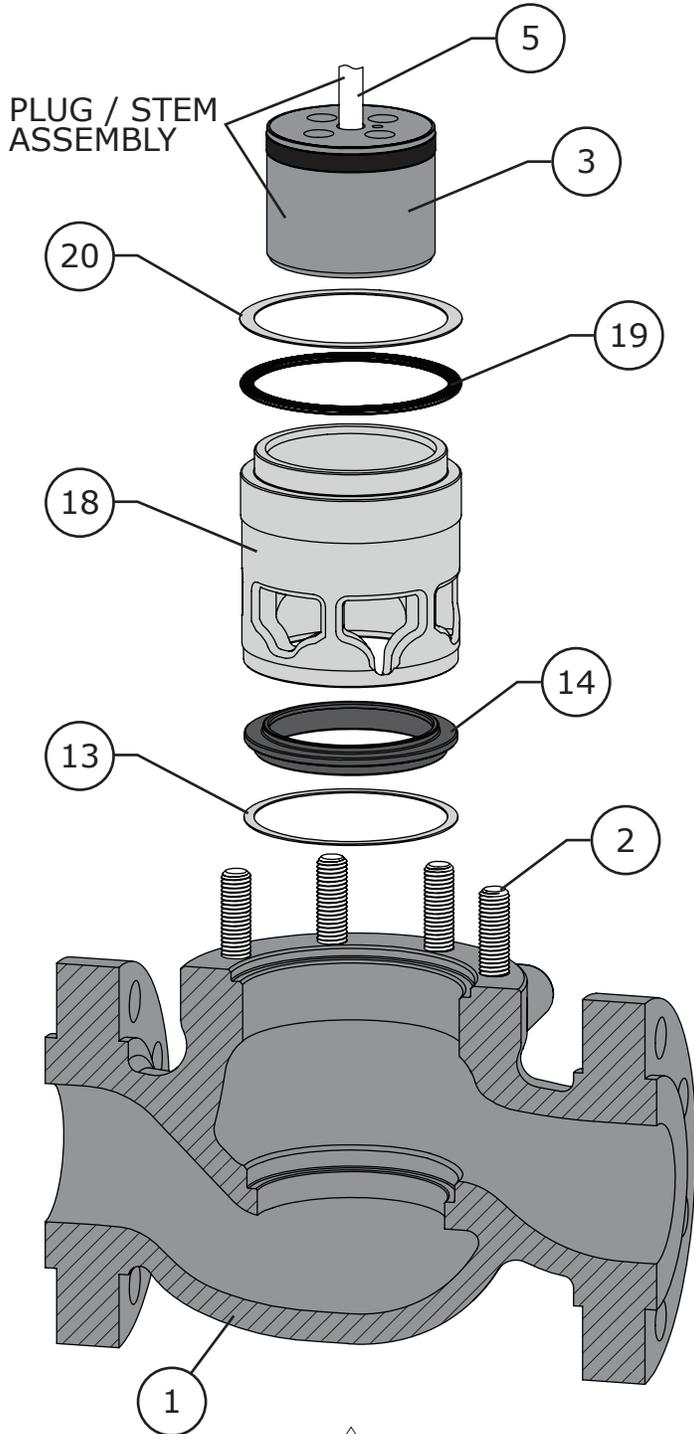

Figure 10 Standard Trim Parts Removal (Steps 1 - 6)
- 1 Remove the metal shim (Key 20) and spiral wound gasket (Key 19) if they haven't already been removed. Refer to Figures 10.
- 2 Remove the valve stem (Key 5) / valve plug (Key 3) assembly from the valve body (Key 1), refer to Figure 10. Refer to the Plug Seal Removal section for disassembly instructions.